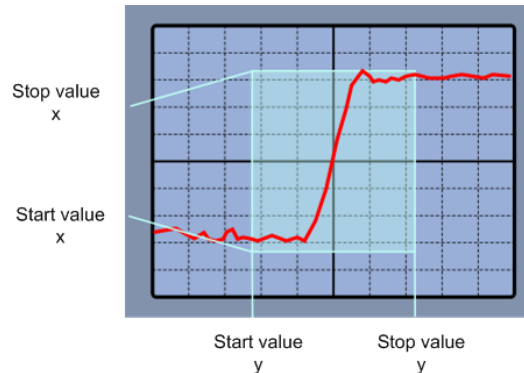

Fig. 4-1: Numeric zoom using start and stop values
4. Define the "Start" and "Stop" values that define the lower and upper borders (respectively) of the zoom area on the y-axis (see figure 4-1).